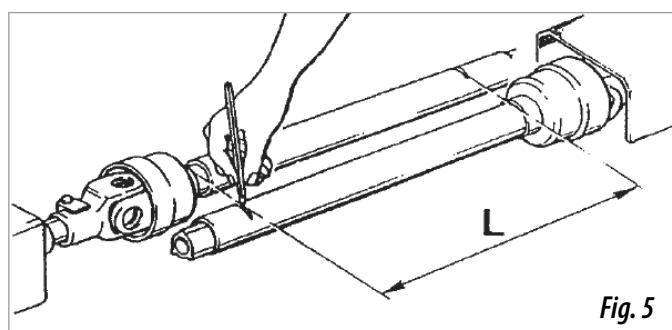

Fig. 5
- 1-** Dismount and insert one end into the tractor's universal joint shaft and the other end into the fertiliser spreader. Look for the minimal movement length "L" (Fig. 5) by raising and lowering the hydraulic lift.